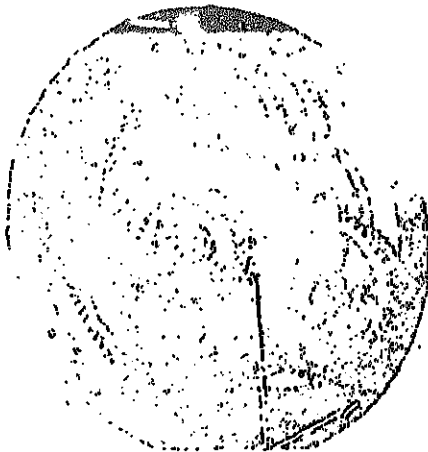

FIGURE 8-37.
r. Apply a large amount of lubriplate. Insert thrust washer first and then assemble needle bearing into outer planetary (see figure 8-37).